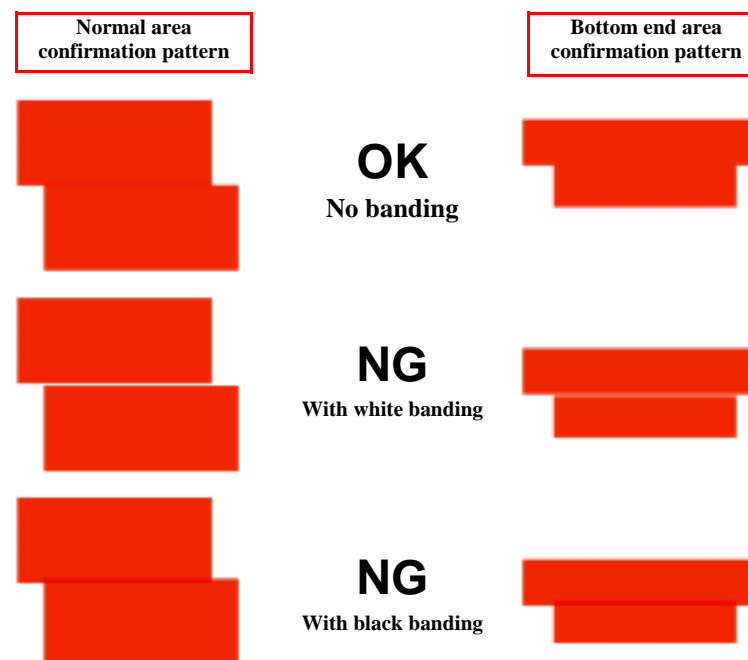

Figure 5-12. Judging the PFP Confirmation Patterns
7. By consulting Fig. 5-12, check that all the printed confirmation patterns are free from banding.